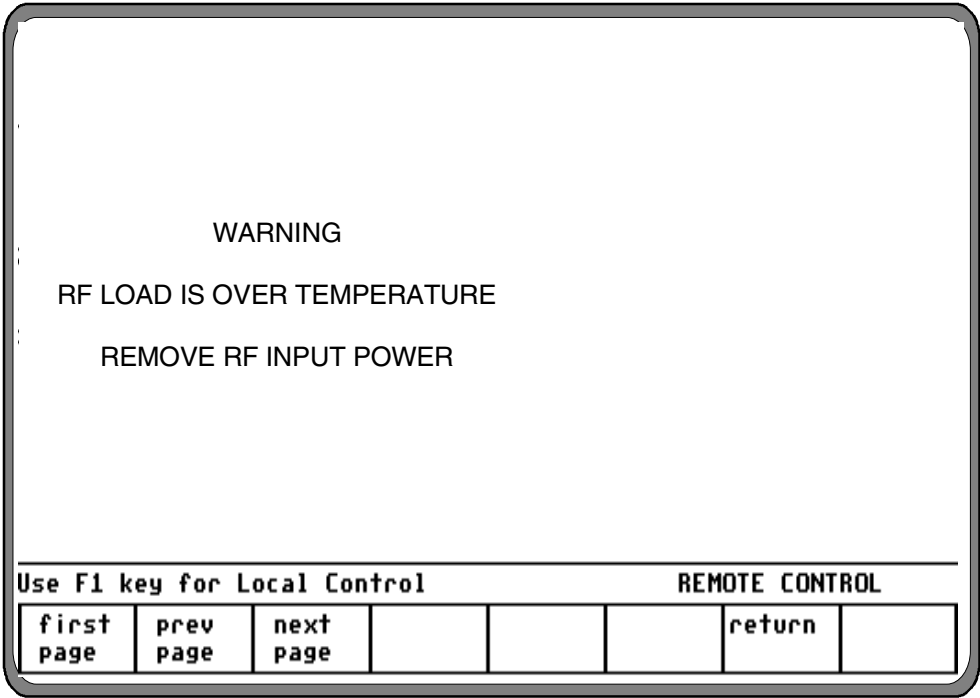

Figure 3-3. RF Overtemperature Warning Message
- A continuous audible warning tone along with an overwrite of the screen with a warning message will be presented for RF overtemperature (figure 3-3). This condition may occur when the intermittent power rating of the 125 watt internal load is exceeded. Both the display and the warning tone remain on and all operator input is ignored until the condition is corrected. The Analyzer then resumes normal operation.